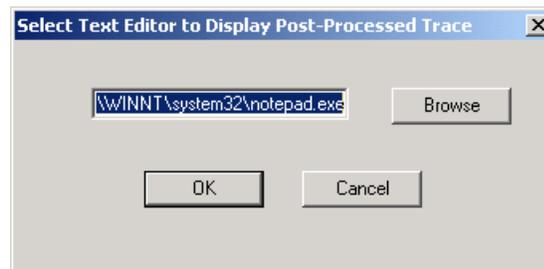

Figure 7-19: Post-Process Select Text Editor Screen
2. Choose **Post-Process > Select Text Editor** from the Neo8000Center menu. The Select Text Editor screen appears (Figure 7-19).